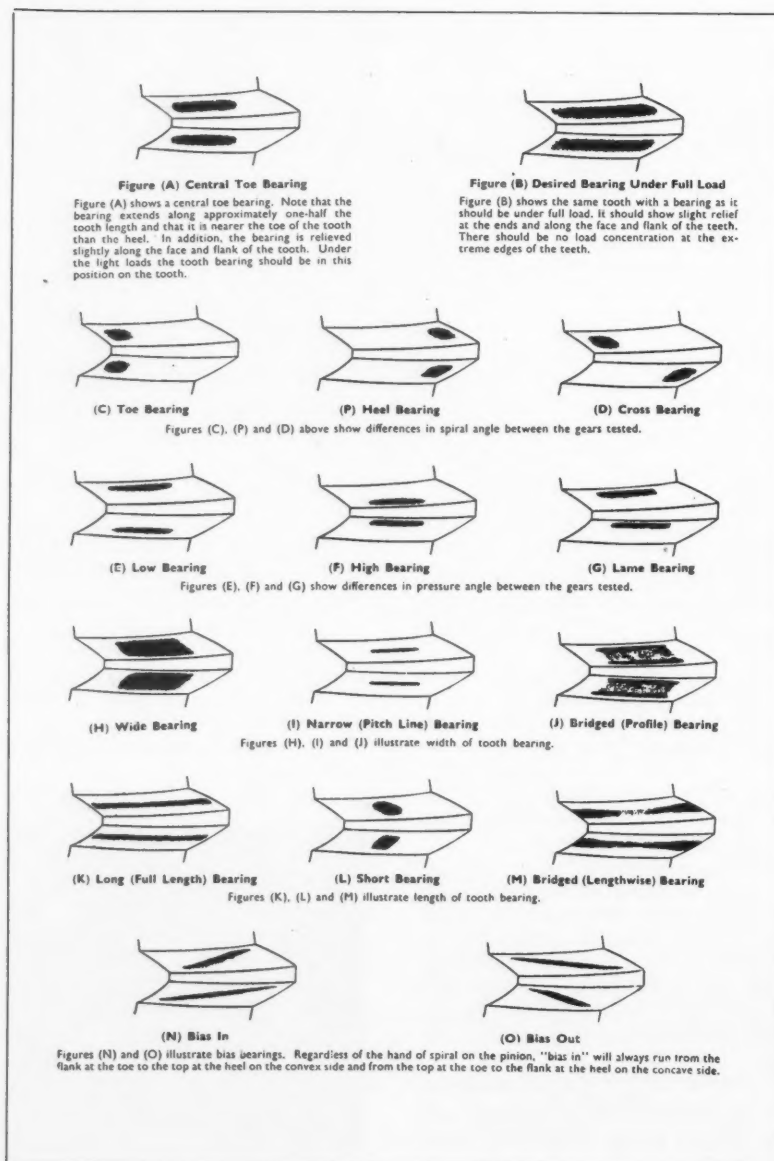

Fig. 6.
3. *Running quality*: a smooth quiet running gear indicates correct profile generation; this is also indicated by full profile bearing pattern (Fig. 6). Coarse running generally denotes incorrect setting in cutting machine or test machine; both should be checked unless the test machine has been checked with the master pair; bearing pattern shows either Fig. 6 E or F. The axial position on the test machine of the member being tested can then be altered and trial runs made on the test machine until a correct profile marking is obtained. The amount of alteration required on the test machine for correct running can then be used for an alteration of a cutting machine setting.
4. *Lengthwise bearing position on the tooth*: Fig. 6, A, B, C, D, indicate bearing positions possible. "A" is generally the contact aimed for, and for light loaded gears "B" is asked for. The position for "C" and "A" generally causes some controversy, so the best way is to fix a definite vertical movement above or below centre whichever side is being tested, to give a full length bearing "B". By this check a toe bearing condition can always be duplicated. In the case of "D" pattern, the amount necessary to alter the test machine to produce correct bearing, is also used to alter the cutting tool positions on the cutting machine.